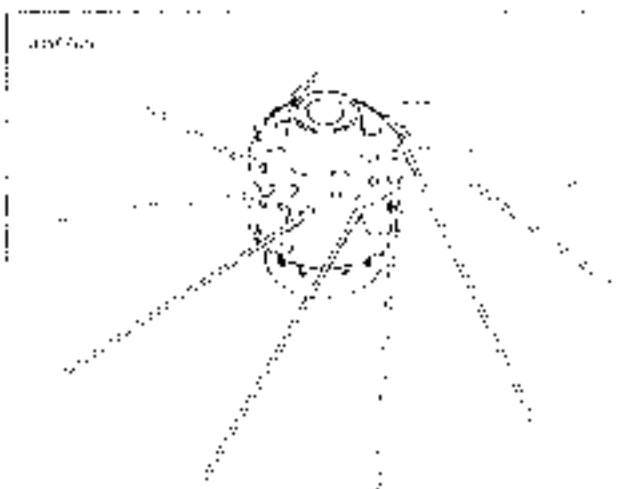

Figure 2-42.
1. See Figure 2-42. Place the hub or tabs with brake disc side (wide flange) down. Insert a spoke in each hole of the lower row as shown below. Angle spokes clockwise.